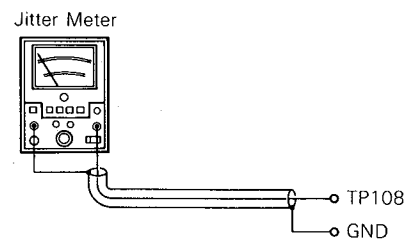

Fig. 14
- (1) Connect the jitter meter to TP108 and GND. (Fig. 14)
- (2) Insert Philips test disc #5 and place unit in play mode on track number 9.
- (3) Confirm the jitter meter reading does not exceed 32ns. If 32ns is exceeded
- (4) Place Philips test disc #5 on the turntable.
- (5) Put unit into play mode on track number 9.